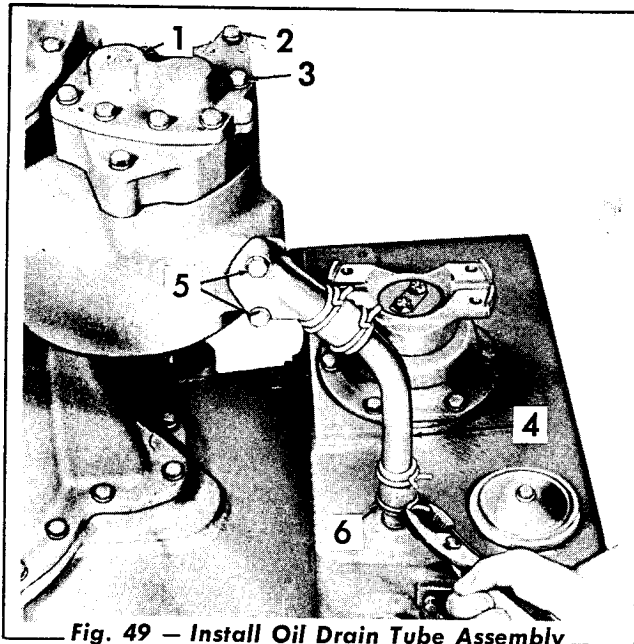

Fig. 49 — Install Oil Drain Tube Assembly
13. Secure the oil pump (Fig. 49) with the two short capscrews and lockwashers and the four long capscrews and lockwashers. Assemble the oil drain tube assembly and install it on the transmission. Secure the assembly with the two capscrews and lockwashers and the hose clamp.